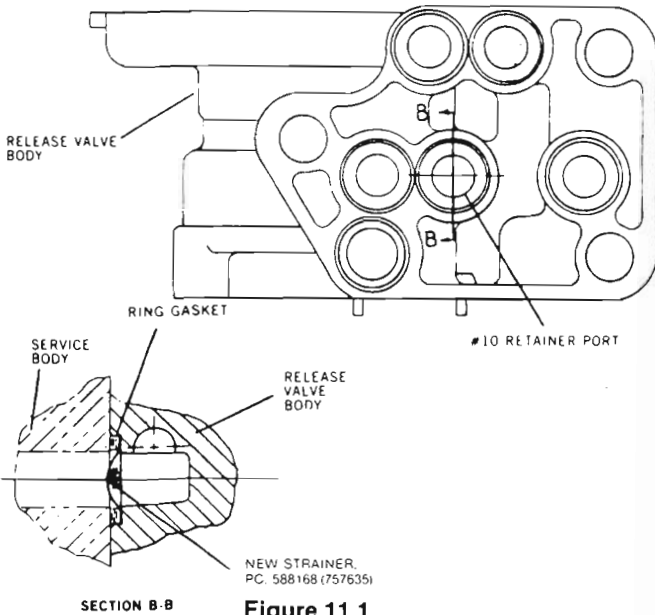

Figure 11.1
7.1.7 Insert strainer, PC. 588168 (757635), into the retainer port under the ring gasket on the face of the release valve body as shown in figure 11.1. (Ref. NYAB General Letter 410 or WABCO Service Bulletin 68-8)